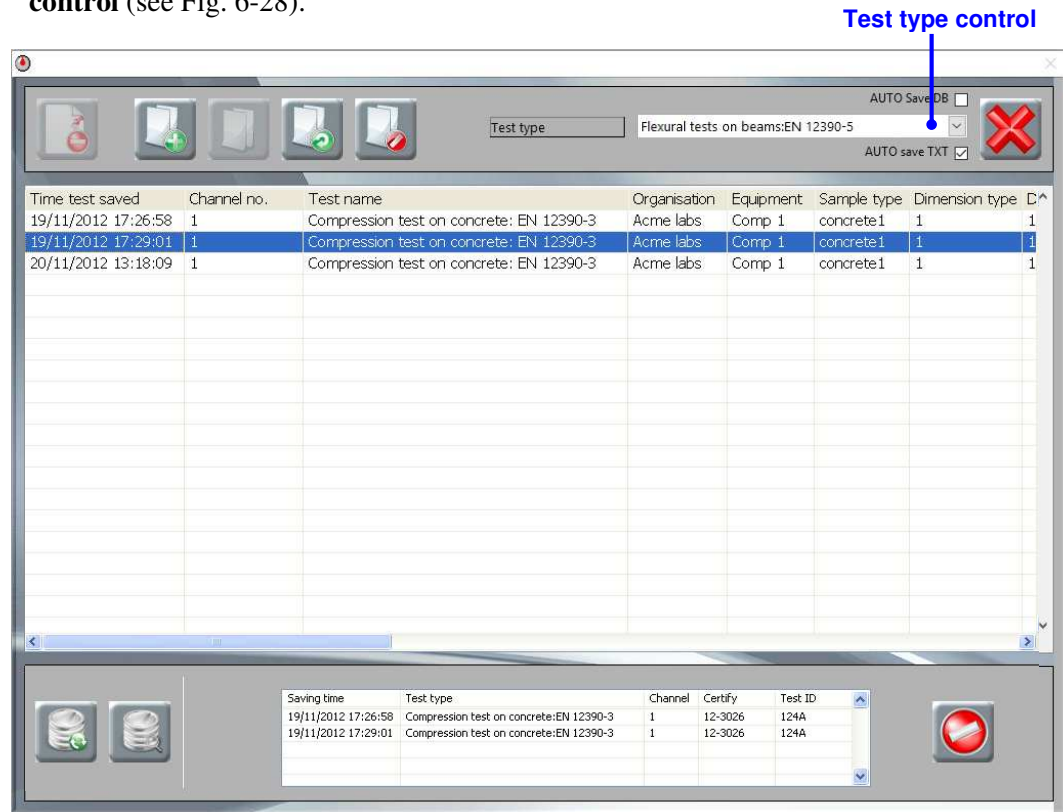

Fig. 6-28
3. Select the type of test you want to open from the drop-down list in the **Test type** control (see Fig. 6-28).
3. Select the type of test you want to look at from the drop-down list in the **Test type control** (see Fig. 6-28).